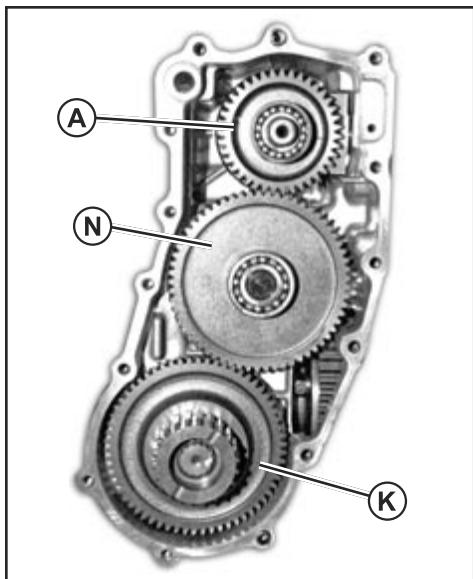

Fig. 19, Rear PTO Cover Removed
4. Remove PTO clutch assembly (A). (Fig. 19)
5. Remove PTO idler gear assembly (N). (Fig. 19)
6. Remove PTO gear (K). (Fig. 19)
7. Left axle must be removed to remove PTO output shaft assembly (L), (See "Rear Axle Assembly Removal and Installation" on page 41.)
(Fig. 19)